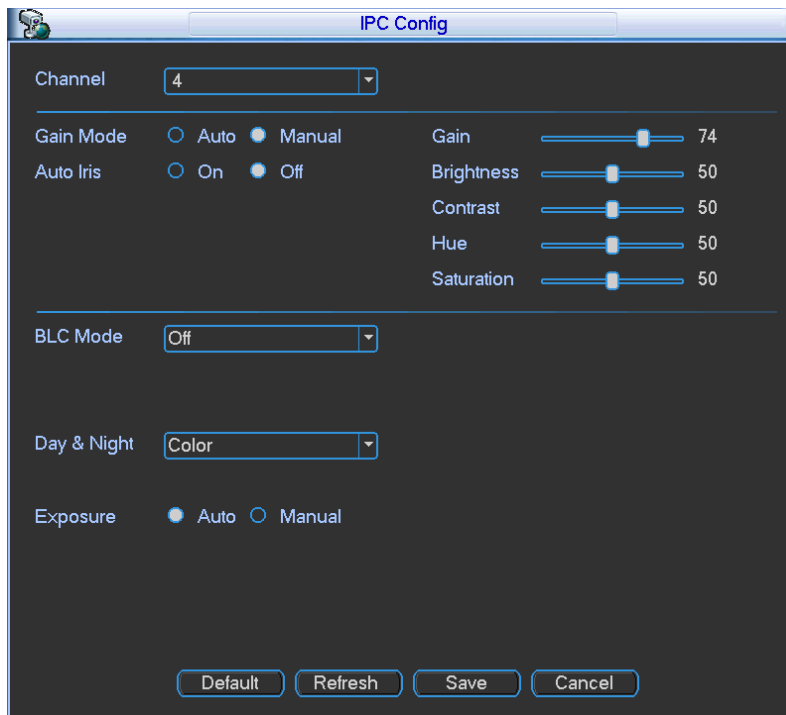

Figure 5-77
- IPC config: Double click the  on the IPC config column, you can go to the IPC setup interface. See Figure 5-77.